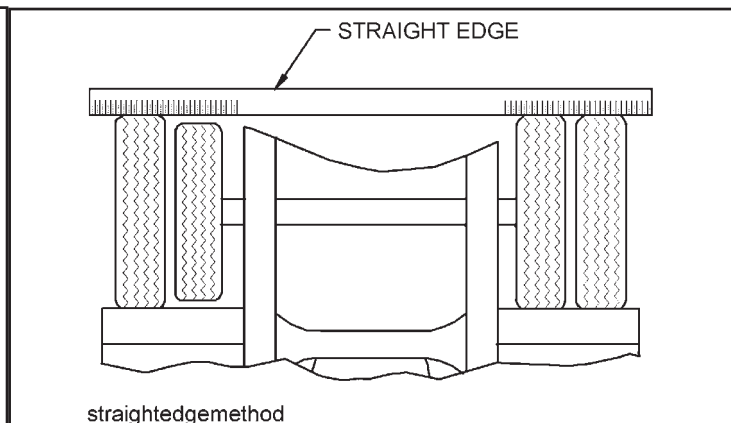

Fig. 4-16 Straight Edge Method
- b. **Straight Edge or String Method:** (This method can not be used if tire and wheel assemblies are not mounted on the axle.) Jack semitrailer up until the wheels are off of the ground. Hold a straight edge against the tires of both ends of an axle. A gap at one tire indicates a smaller tire. A maximum of 1/8" gap is allowed (**See Figure 4-16**).